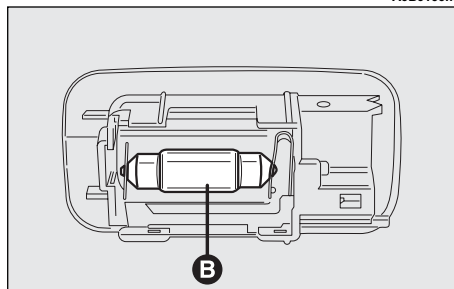

fig. 60
- Remove the bulb (**B**-fig. 60) pulling it outwards and releasing it from the side contacts.